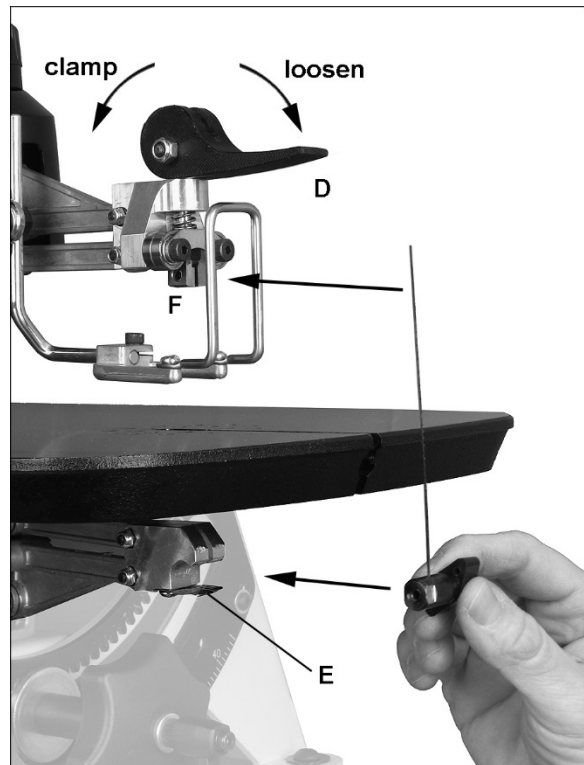

Figure 15: installing blade into guides
4. Flip clamping lever (D, Figure 15) toward front of saw to release guide.
5. Push blade holder into clip (E) while guiding blade through table slot.
6. Push top end of blade into upper guide (F), making sure it rests between the contact points of guide set screws, and against the back stop.
7. Flip clamping lever (D) toward rear of saw to tension blade. *Do not over-tension blade; this can result in blade breakage or premature wear to clamping surfaces.*